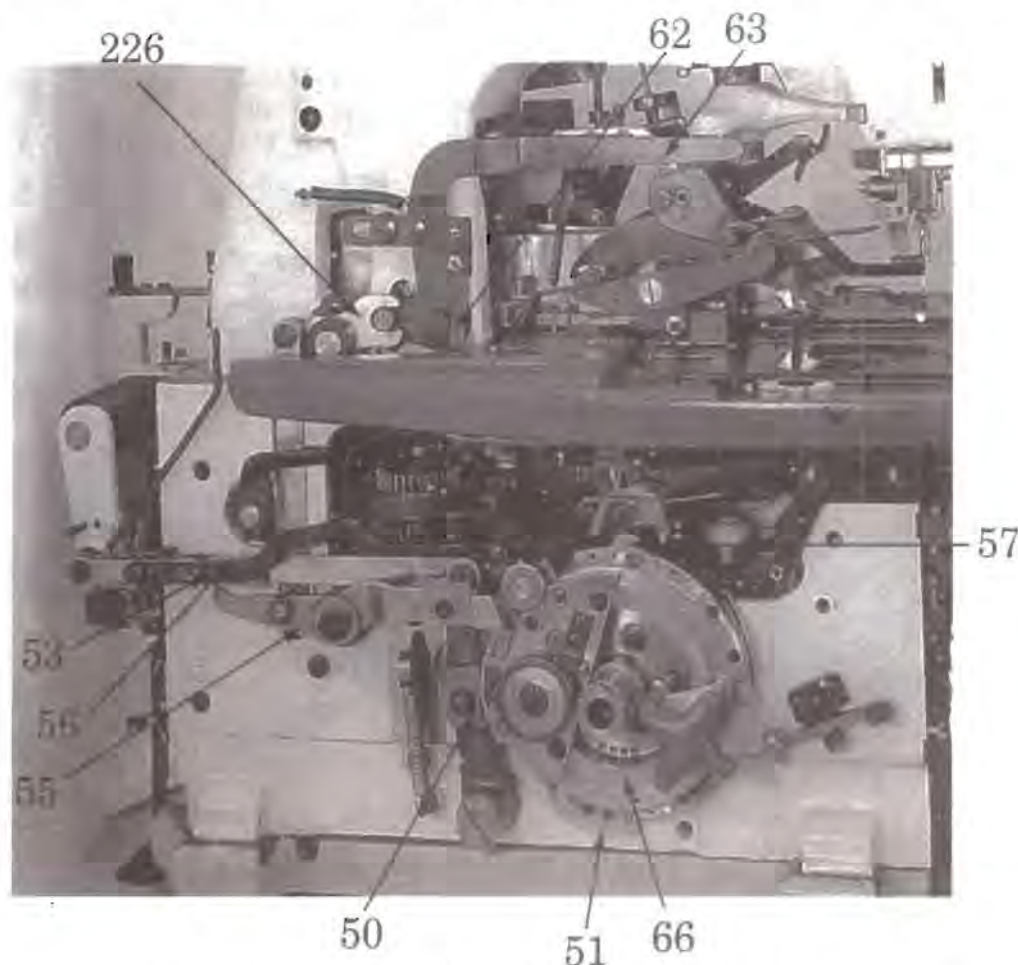
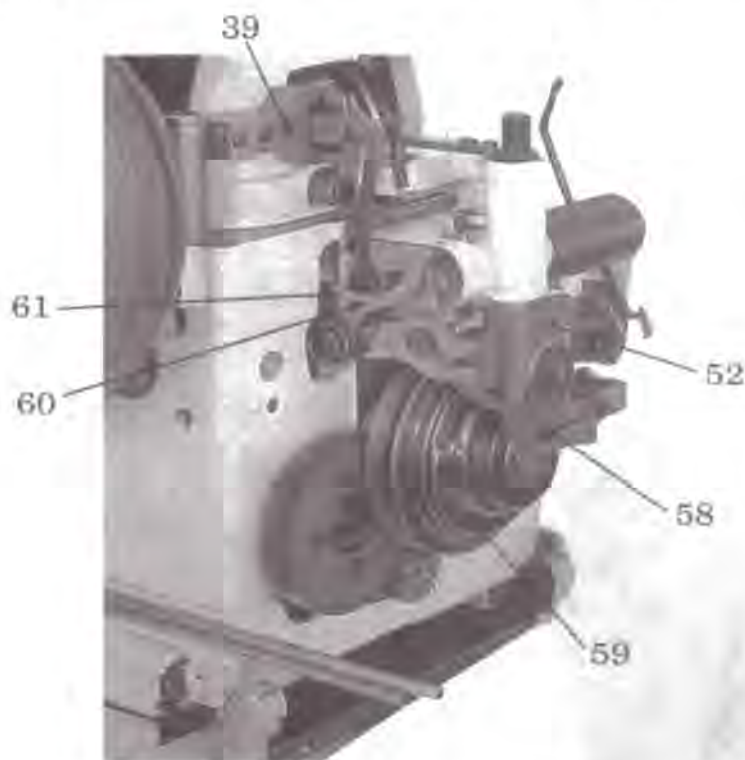

Fig. 9 View of Pattern Wheel and Sewing Mechanism
Fig. 10 View of Stop Motion Mechanism
To prevent accidental functioning of the cutter during sewing, the cutter is locked out of operation by means of having the end of the cutting safety lever (45, Fig. 26) follow the outside diameter of the safety cam (153, Fig. 26) provided on the pattern wheel shaft (148, Fig. 26) causing the latch on the other end to engage with the cutting starting lever arm (39, Fig. 10), thus preventing the cutter to function.
When the work clamp plates are brought to the stitching position, the stitching mechanism is started in operation by the action of the operating plate (50, Fig. 9) riding on the segment (51, Fig. 9) on the pattern wheel ring, causing the stop lever (52, Fig. 10) to swing back out of engagement with the stop cam, this action causes the rapid feed to be disengaged by the trip lever (53, Fig. 9). At the same time the stop lever lock lever (55, Fig. 9) engages in the notch of the block (56, Fig. 9) on the stop lever link. The
machine then stitches the buttonhole and at the completion of the stitching, the stop segment (57, Fig. 9) on the pattern wheel ring trips the stop lever lock lever (55) disengaging it from the notch of the block (56), causing the stop lever to swing in, ready to lock in the stop cam. As the interlocking slide (58, Fig. 10) is raised by the action of the stop cam (59, Fig. 10), the point of the latch (60, Fig. 10) is lowered fully $\frac{5}{64}$ inch below the end of the second rapid feed starting lever (61, Fig. 10). As the interlocking slide (58) drops into the notch of the stop cam (59), it raises the latch (60) which in turn raises the second rapid feed starting lever (61) as it comes into contact with it, thereby starting the rapid feeding mechanism in operation to move the carrier back to a starting position for the next buttonhole. At the finish of the rapid feeding of work clamp plates, the rapid feed is disengaged by the tripping point on the inner side of the pattern wheel (66, Fig. 9) coming
The spreading action on the work clamps is then released and the work clamps are raised by means of the opening lever (63, Fig. 9) and spreader releaser (62, Fig. 9) which are actuated by the opening cam (226, Fig. 9) on the left end of the buttonhole cutting shaft, after which the lock (41) in the inner buttonhole cutting wheel is withdrawn from the loose buttonhole cutting pulley, releasing the wheel from the pulley and thus stopping the rotation of the buttonhole cutting shaft.